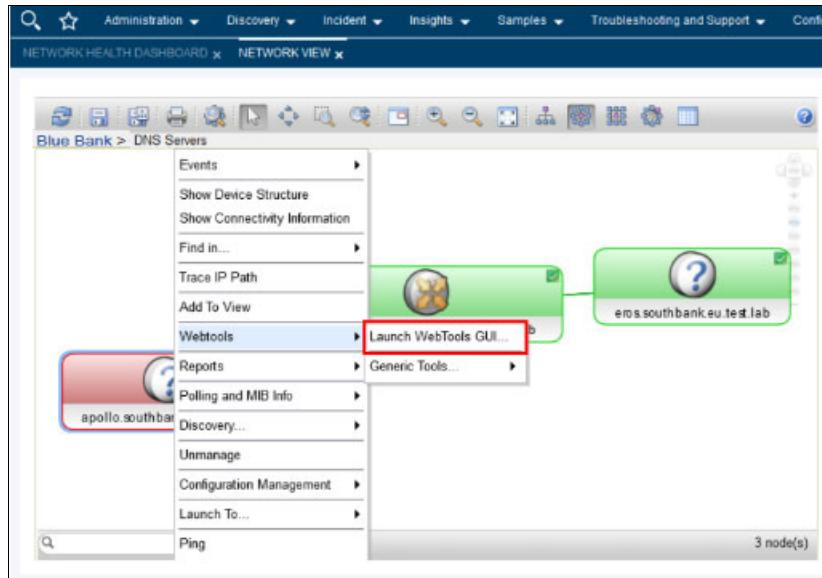

Figure 2-29 Starting the WebTools GUI by using Network View
4. Brock uses the nslookup tool to check the DNS configuration. He selects **Webtools** → **Launch WebTools GUI**, as shown in Figure 2-29.